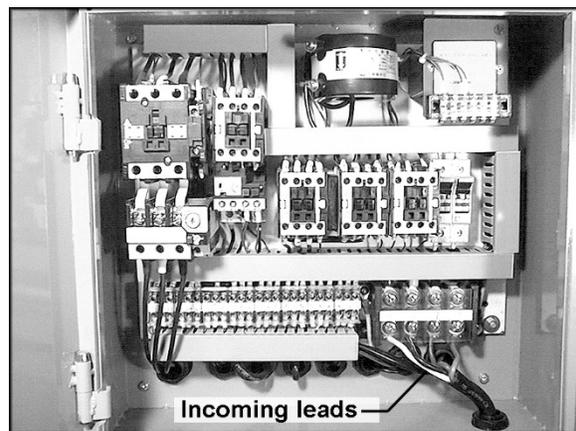

Figure 5
3. Open the sander’s electrical box and connect the three incoming power leads to the terminals marked R,S,T. See Figure 5. Connect the green ground wire to grounding terminal E.